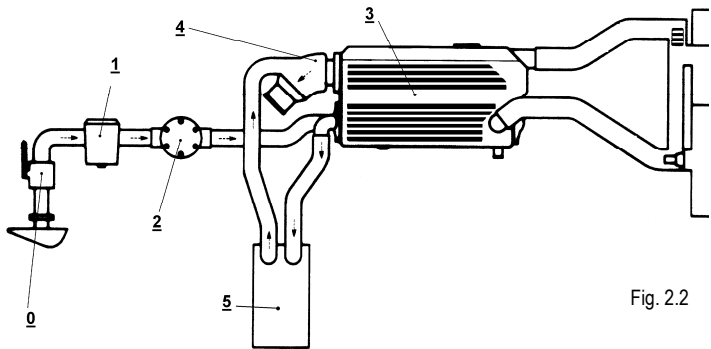

Fig. 2.2
2.2.2 “SEAWATER” COOLING CIRCUIT (Fig. 2.2)